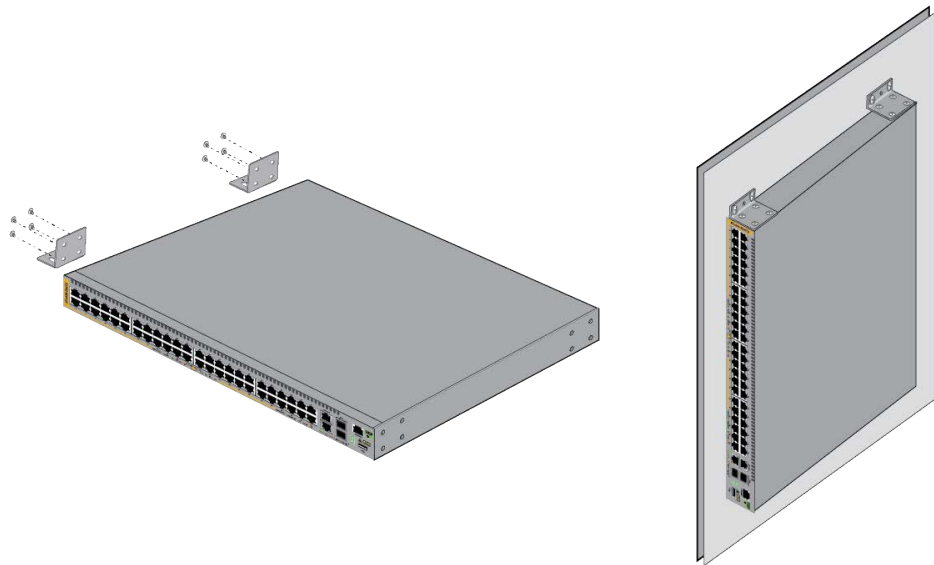
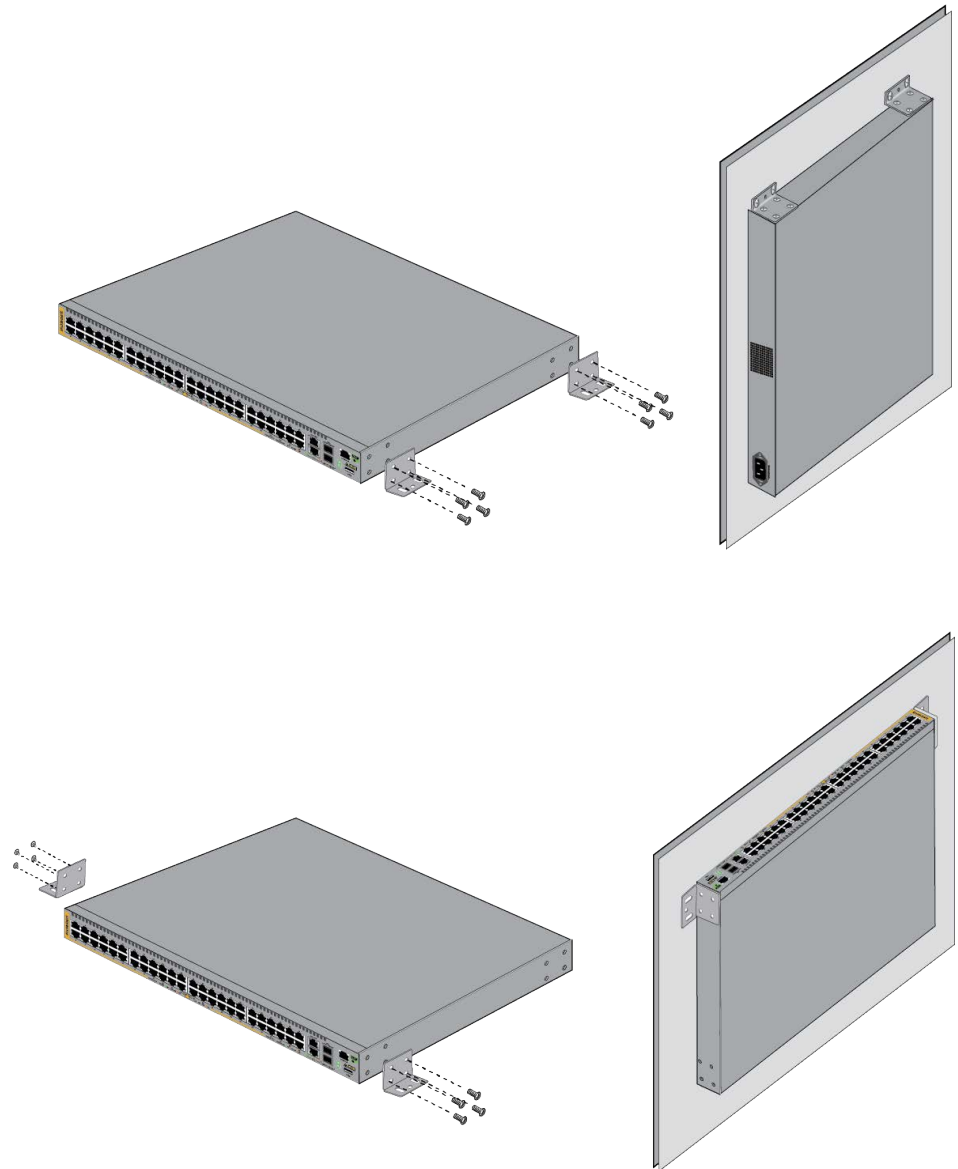

Figure 56. Attaching the Wall/Equipment Rack Brackets to the x330-52GTX Switch
Figure 57. Attaching the Wall/Equipment Rack Brackets to the x330-52GTX Switch (continued)
3. For the x330-52GTX Switch, attach the two wall/equipment rack brackets to one side of the switch. Refer to Figure 56 and Figure 57 on page 107 for the bracket positions.